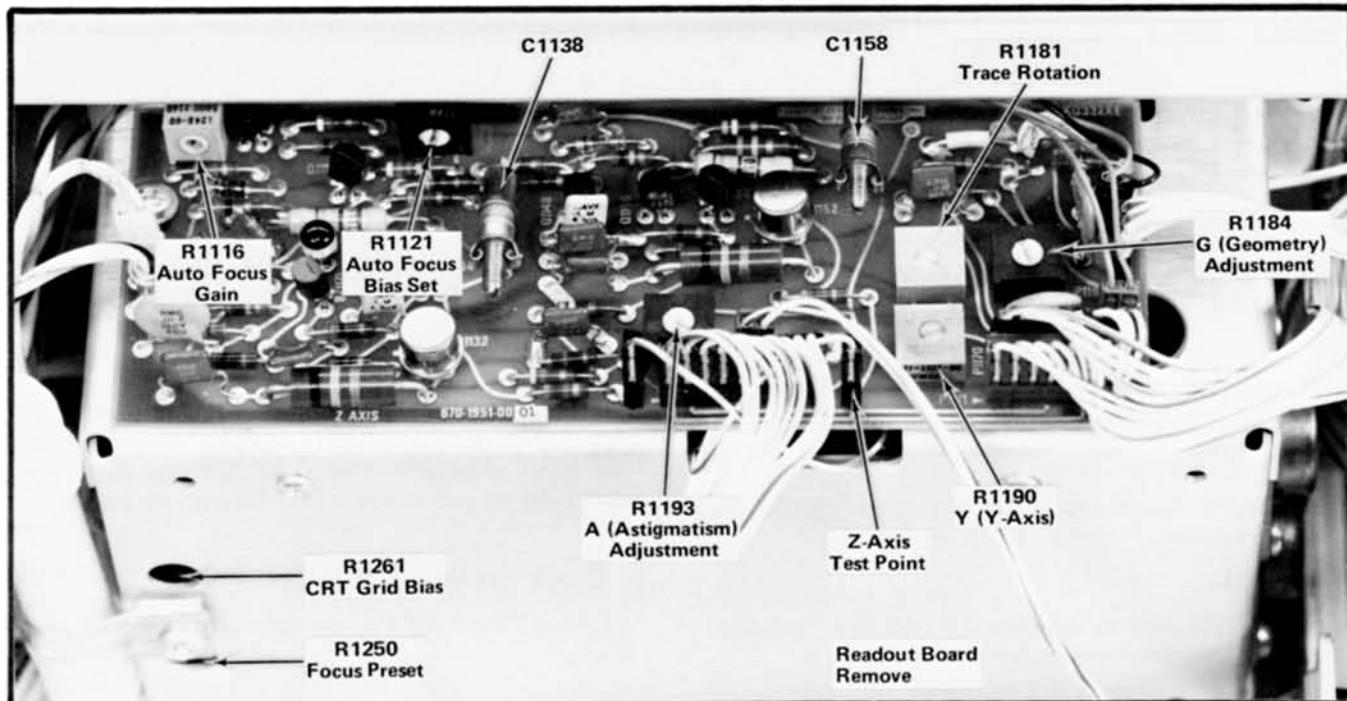

Fig. 2-2. Location of Display and Z Axis adjustments and test points.
- Connect a 10X probe from the test-oscilloscope to the Z-Axis test point (see Fig. 2-2) and the probe ground lead to chassis ground.
- ADJUST-CRT Bias adjustment R1261 (see Fig. 2-2) until the trace on the 7613 (R7613) is just extinguished. Set INTENSITY for a viewable trace.
- Set the test-oscilloscope for 10 V/division, DC input, and connect its 10X probe to the 7613 (R7613) Z-Axis test point (see Fig. 2-2) and probe ground lead to chassis ground.
f. ADJUST—FOCUS control and A (astigmatism) adjustment R1193 (see Fig. 2-2) to obtain best display definition.
d. ADJUST—Trace Rotation adjustment R1181 (see Fig. 2-2) to align the trace with the center horizontal line.
d. ADJUST—Y-Axis adjustment R1190 (see Fig. 2-2) to align the trace with the center vertical line.
l. ADJUST—Geometry adjustment R1184 (see Fig. 2-2) for minimum bowing of time markers. Adjustment may have to be compromised to obtain less than 0.1 division bowing and tilt everywhere within the graticule area.